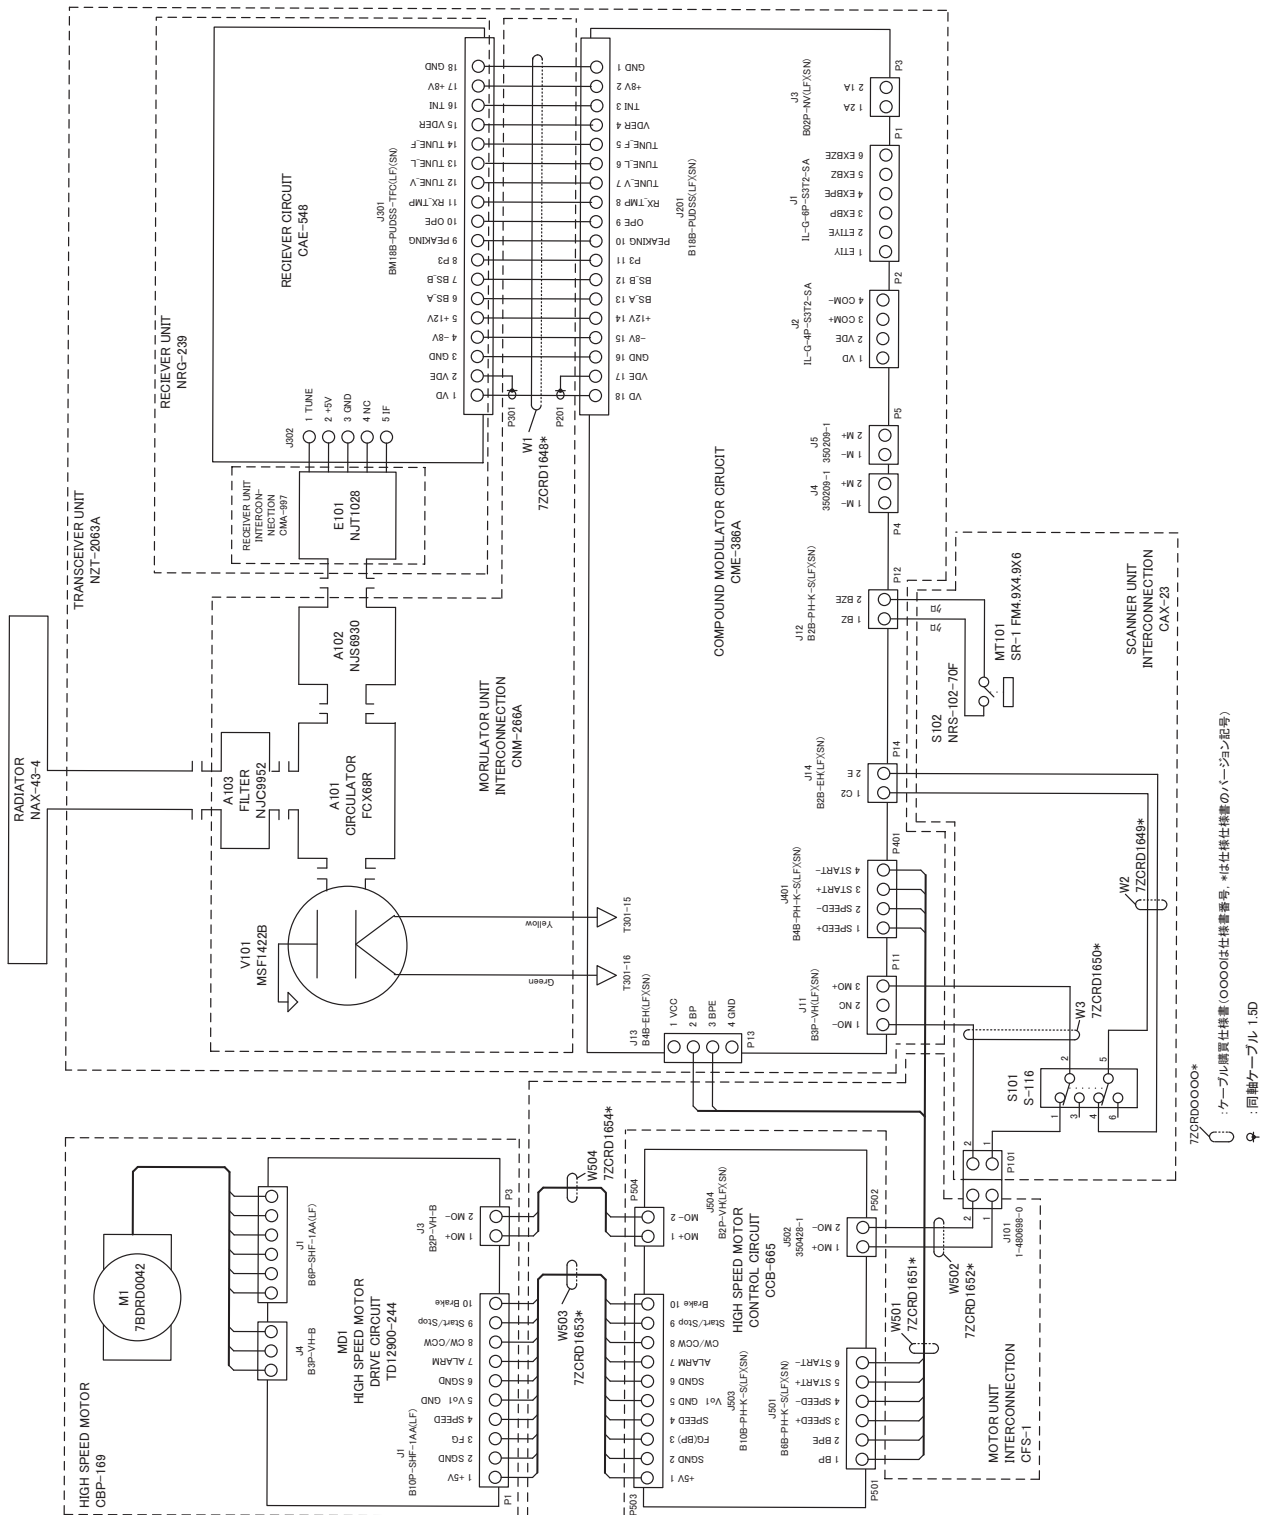

Figure 13 NKE-2063A Scanner Unit Interconnection Diagram
- FIGURE 13 NKE-2063A SCANNER UNIT INTERCONNECTION DIAGRAM